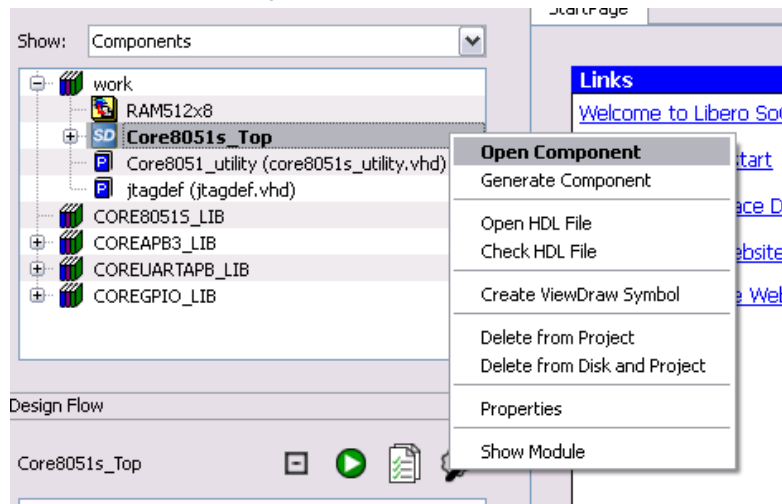

Figure 6 Open Top Level Component
6. Right-click the top level SmartDesign component (for example, Core8051s_Top) and select **Open Component**, as shown in Figure 6.